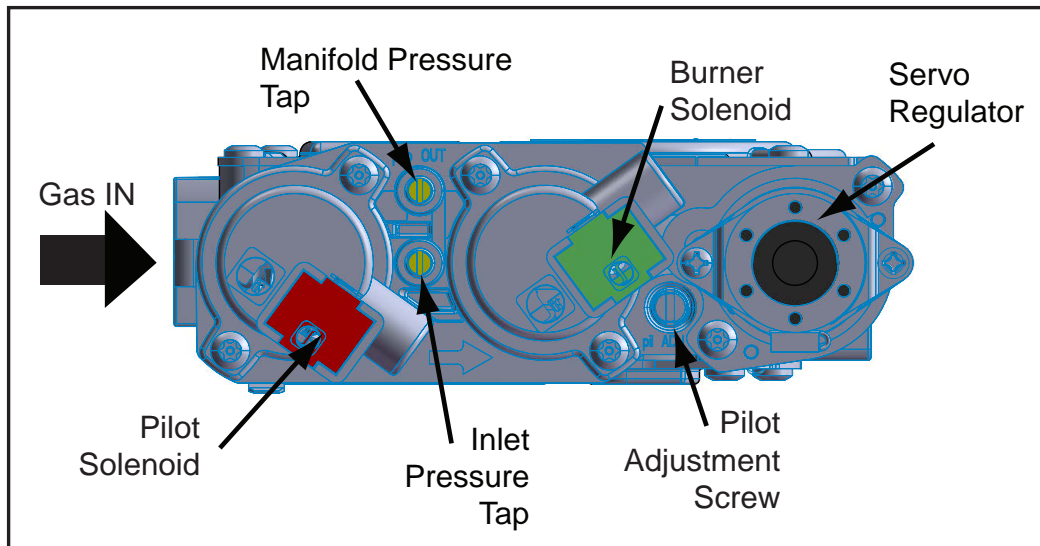

Figure 37: Fully Labeled Gas Valve.
1. The adjustment screw can be reached through the front of the unit using a 10 inch long blade head screw driver (see Figure 37 for location on valve).